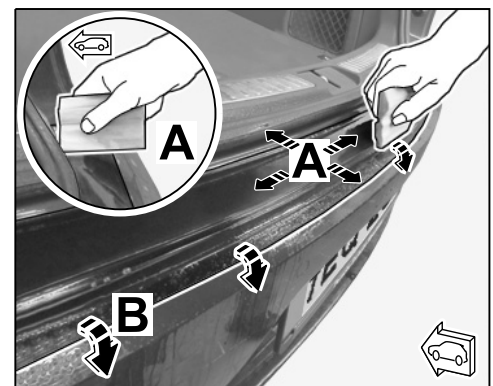

Figure 6
2.3 Spread the soap solution in overlapping strokes with a plastic squeegee as far as the edge of the protective strip (⇒ *Figure 6*).